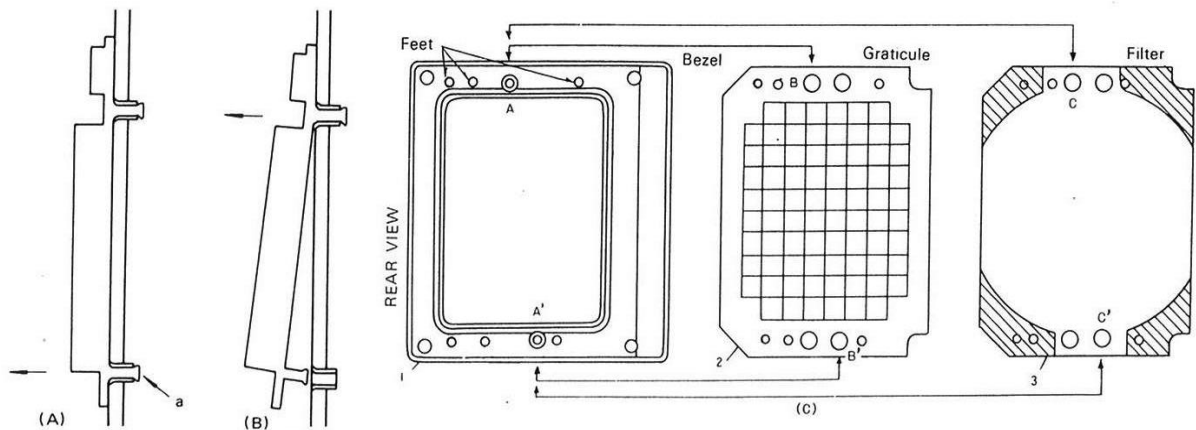

Fig. 3 Removing the Bezel
2. REMOVING THE BEZEL (Refer to Fig. 3)
Since the bezel is mounted on the case through the four mold legs on its back, it can directly be removed without using any tool. However, the mold legs may be broken if unreasonable force is exerted carelessly. As shown in Fig. 3 (A), remove the two legs on the bottom side first. They should not be dismantled completely. They should be loosened so that part a of each leg's tip is unlocked as
shown in Fig. 3 (B). Then the remaining two legs on the top side can be dismantled. In dismantling these legs, only vertical force should be exerted always against the panel surface.
When mounting the bezel 1 on the case, as shown in Fig. 3 (C), get the two holes B and B' of the graticule engaged with the two bosses A and A' of the bezel 1. Then get them engaged with the two holes C and C' of the filter 3.